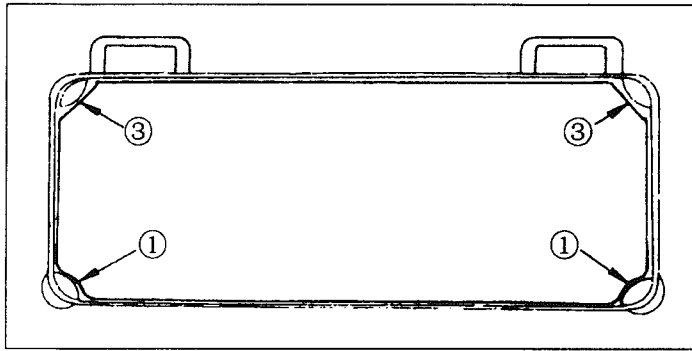
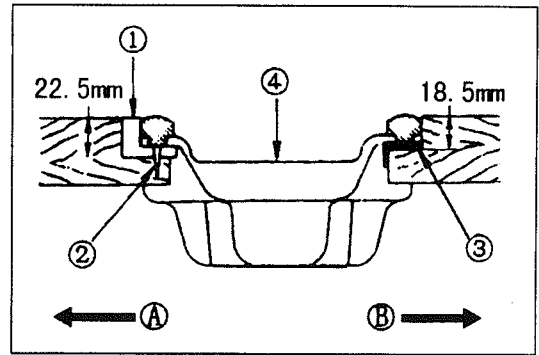
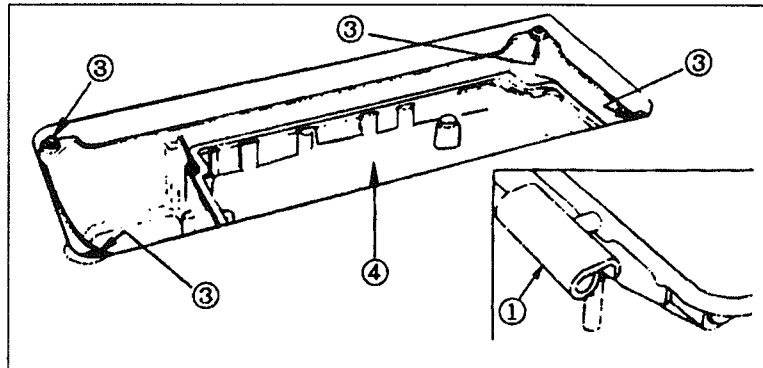
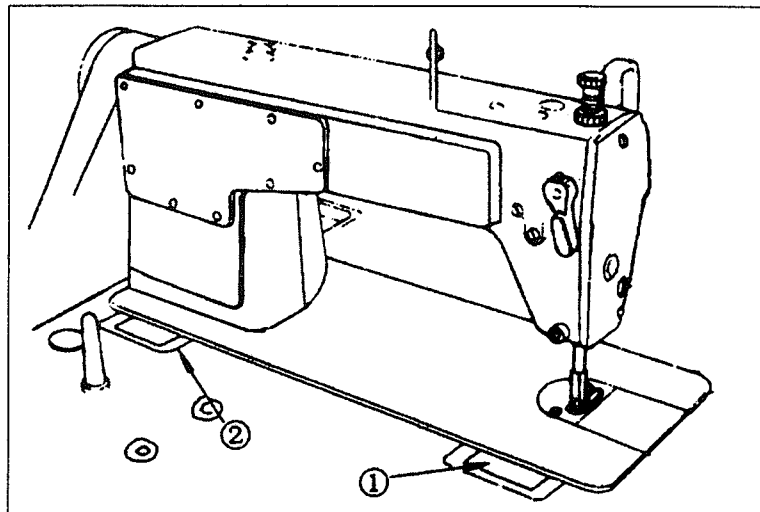

Fig 1
Fig 2
Fig.3
Fig.4
1.INSTALLATION (Fig.1, Fig.2, Fig.3, Fig.4)
- 2) Fix two rubber seats ① on side A (operator's side) using nails ② as illustrated above. Fix two cushion seats ③ on side B(hinged side)using nails ②. Then place oil pan ④ on the fixed seats. (Fig.1, Fig.2)
- 3) Fix hinge ① into the opening in the machine bed, and fit the machine head to table rubber hinge ② before placing the machine head on cushions ③ on the four corners.(Fig.3, Fig4)